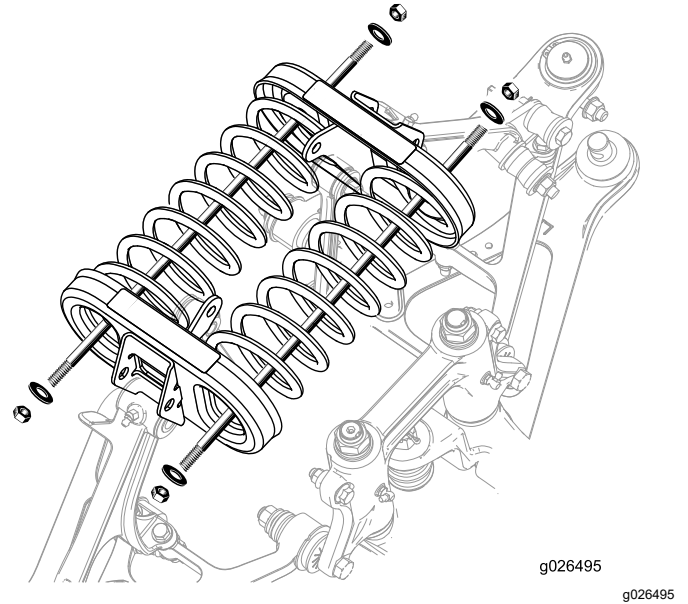

Figure 19
- Install the nuts and washers on both ends of the rod (Figure 19).
- Tighten 1 nut on each rod to secure the springs (Figure 19).